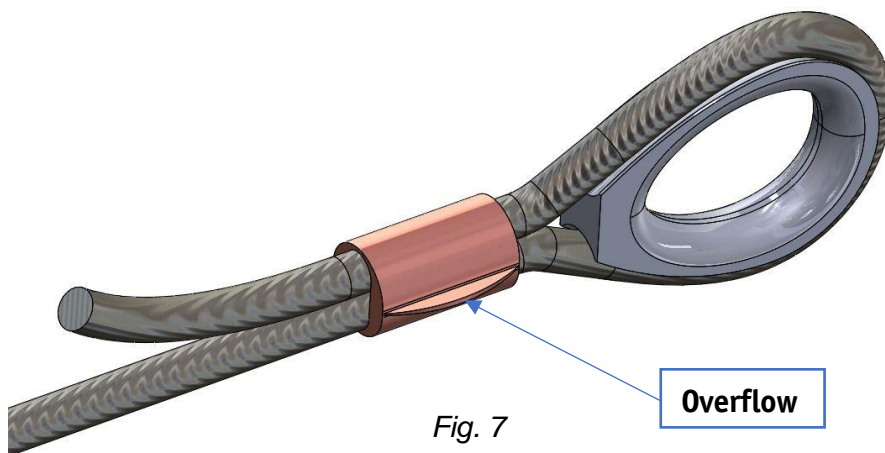

Fig. 7
2.10. Swaging will make overflows on ferrule according to Fig. 7